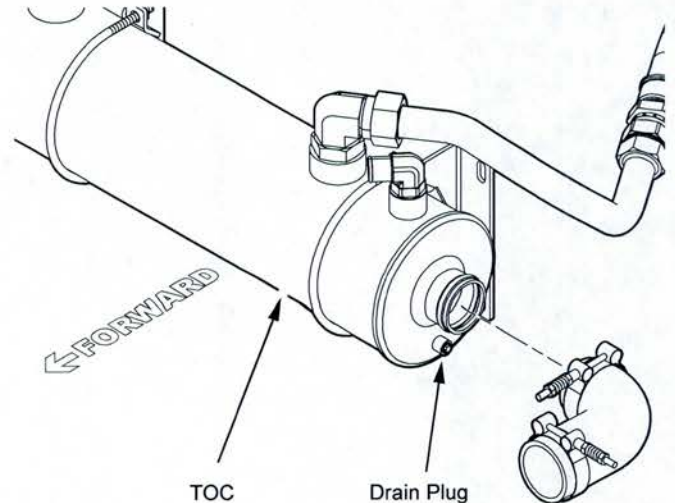

Figure 3
5. Using a 15-gallon (57-liter) drain pan, drain the cooling system by opening the drain valve on the radiator and the drain valve on the bottom of the engine oil cooler housing. Remove the TOC drain plug to completely drain the TOC (see Figure 3).
- Position a 5-gallon (19-liter) drain pan beneath the transmission fluid pipe fittings. Disconnect the 2 transmission fluid pipes from the fittings and remove the fittings from the TOC. Remove and discard the O-rings from the fittings and place the fittings aside for reinstallation. Discard the captured transmission fluid (see Figure 3).